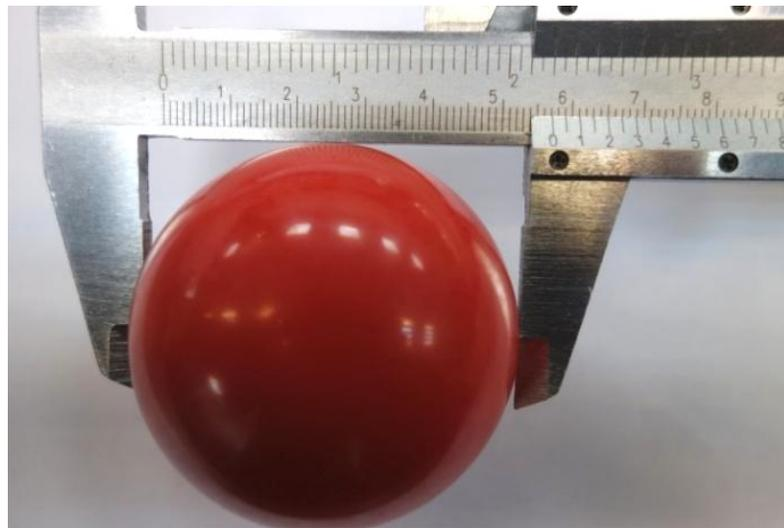

Figure 5 Bowling ball – standard red snooker ball
- 4.6. The bowling balls will consist of standard red snooker balls, and will have a diameter of approximately 57 mm (figure 5).